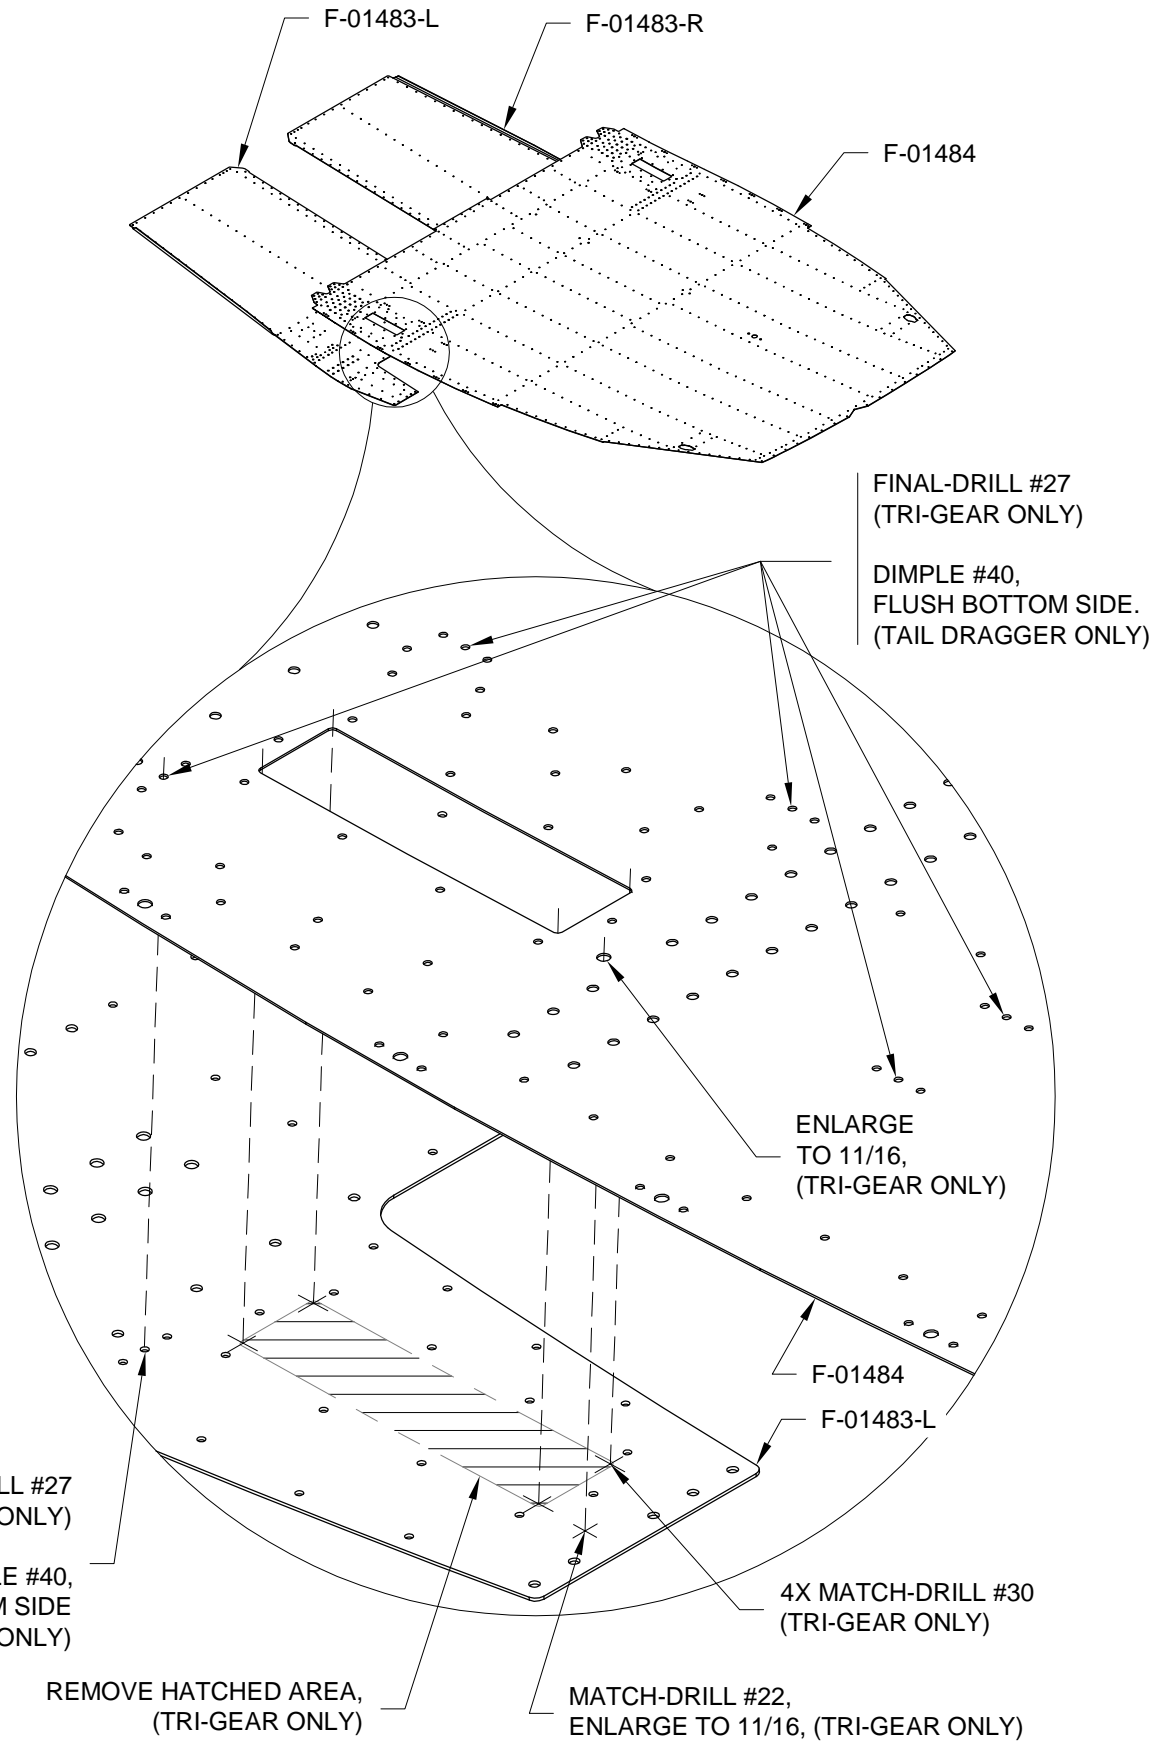

FIGURE 1: FORWARD & CENTER BOTTOM SKINS
Step 12: (Tri-Gear Only) Final-Drill #27 the holes indicated in Figure 1.